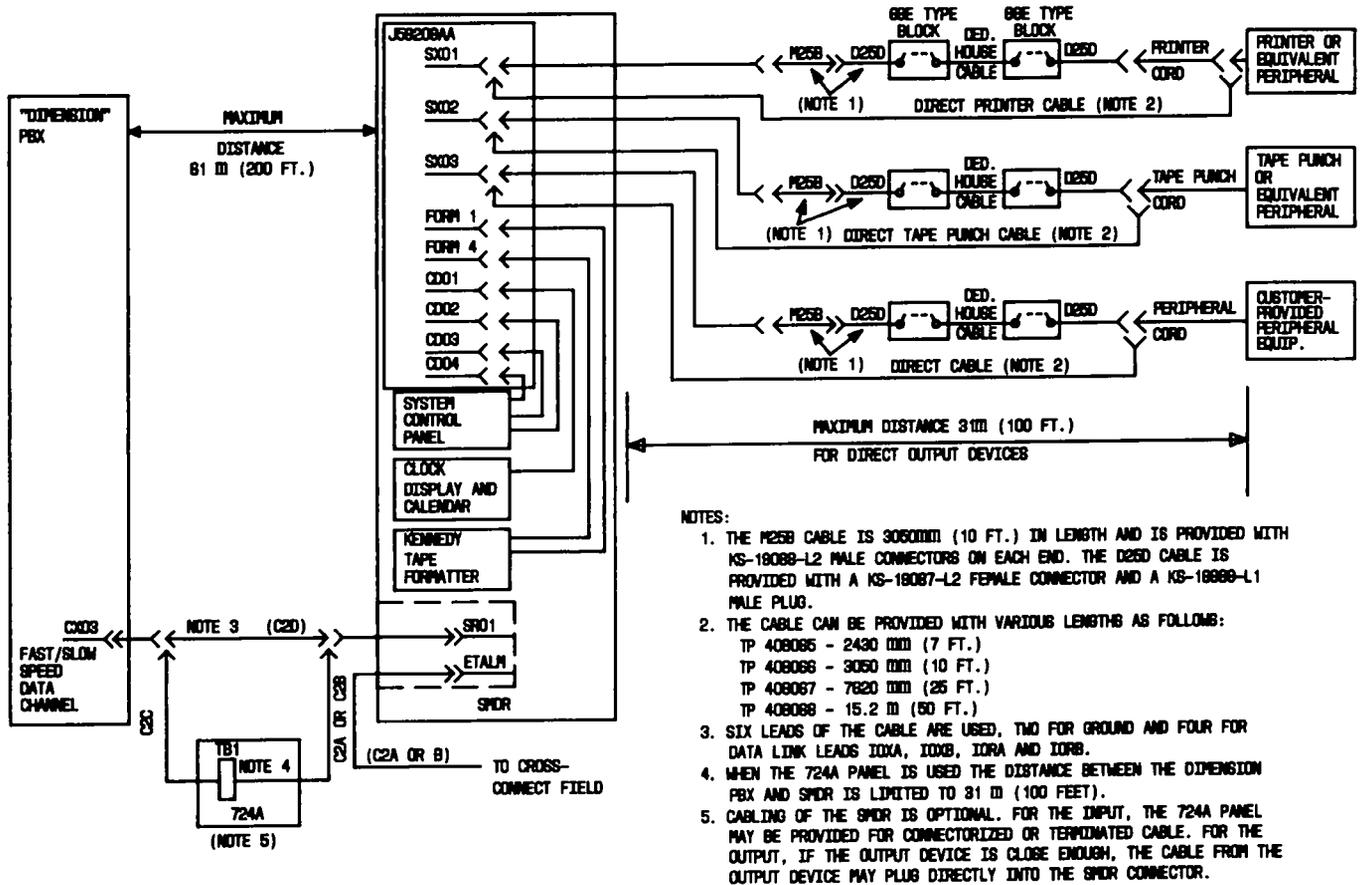

Fig. 44—Wiring Schemes for SMDR Connections
6.69 The SMDR data port is a dedicated channel that is provided by circuit 0, slot 32/37, in the trunk/control carrier. Refer to Section 554-010-122 for detailed SMDR information. Optional wiring connections are shown in Fig. 44. Connections to the 724A panel are illustrated in Fig. 45.